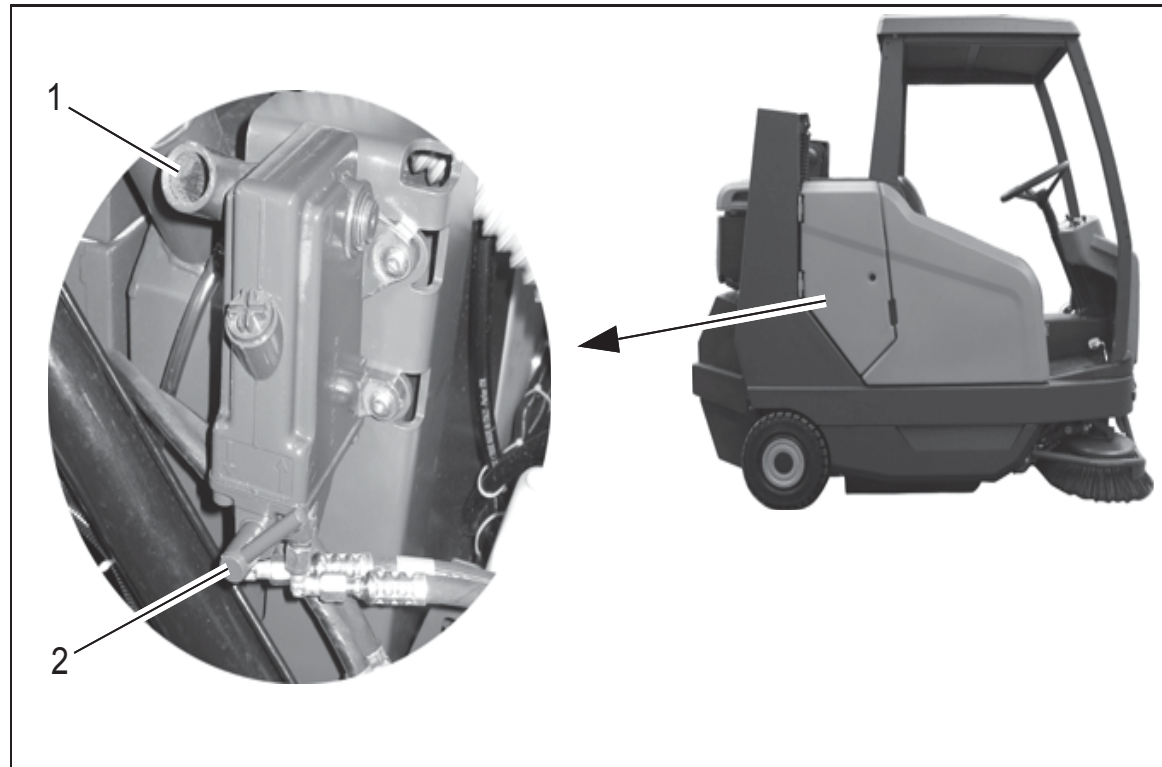

Fig.21
2. Open the side flap and fit the pump lever onto the hand pump (Fig. 21/1).
3. Set the control lever (Fig. 21/2) on the pump to "raise" (arrow upwards) and pump the cab up with the pump lever until it moves no further.